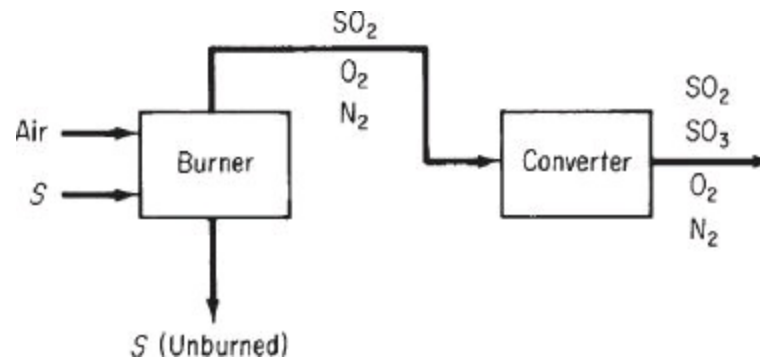

Figure SAT6.2P2
3. In the process for the production of pure acetylene, C_2H_2 (see Figure SAT6.2P3), pure methane (CH_4) and pure oxygen are combined in the burner, where the following reactions occur: